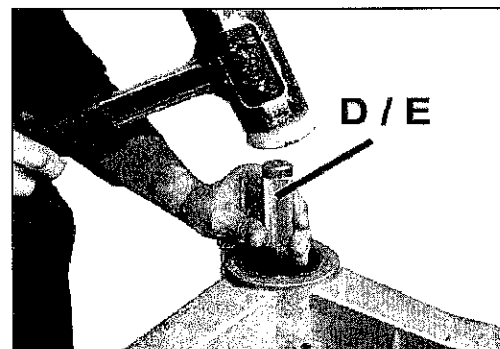

fig.11
- Remove the front bearing by tapping from the inside of the bearing box (fig. 11) with the help of tools D and E.